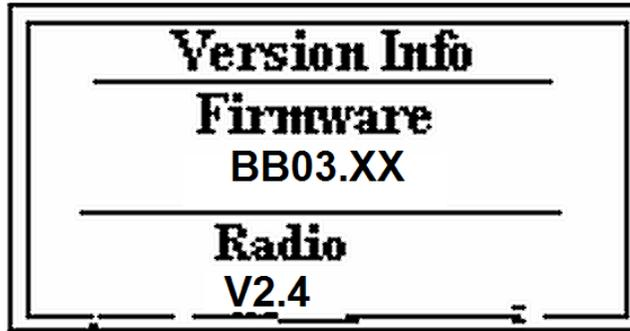

Figure 2-50 Version - Information Screen
7. Press **Enter** and the information screen appears (Figure 2-50).